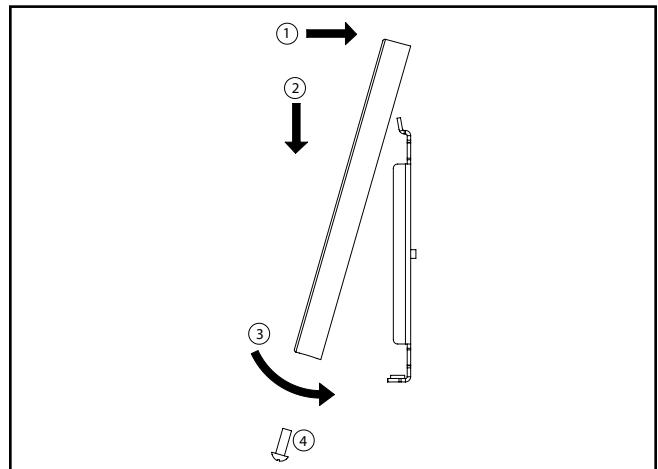

Figure 5.
10. Mount the Canopy to the Junction Box Bracket. Tilt the canopy and place the pocket at the top canopy over the top flange on the Junction Box Bracket. Slide the canopy so that there is full engagement between the Canopy and the Bracket, then tilt the canopy towards the mounting surface. Secure the assembly with the securing screw Proceed to Finishing Instructions. (See Figure 5)